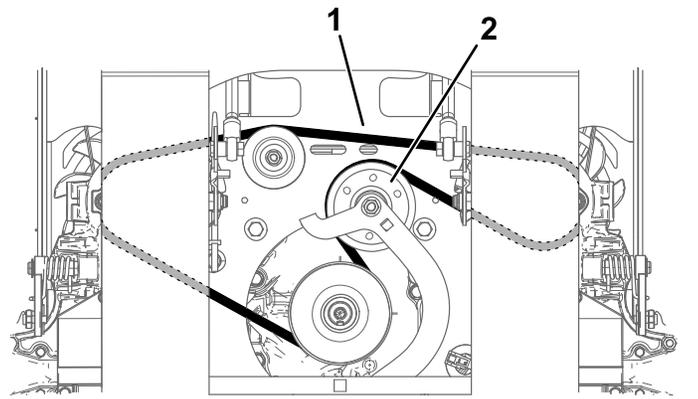

Figure 59
- 7. Remove the belt (Figure 59).
- 9. Install the new belt, routing it around the pulleys as shown in Figure 59.